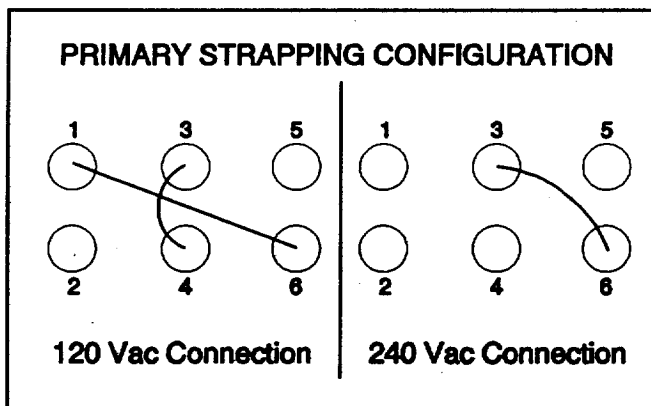

Figure 2 Solder Cup Layout
The power transformer has two independent 120 V ac primary windings and each has a 100 V ac tap. The windings can be series-connected or connected in parallel to match the required ac line voltage. This is accomplished by installing a short jumper wire(s) across the numbered solder cups as shown in Figure 2 and Table I.
3. Referring to Figure 2, remove and salvage the jumper wire(s) from the board between pads 1-6 and 3-4.